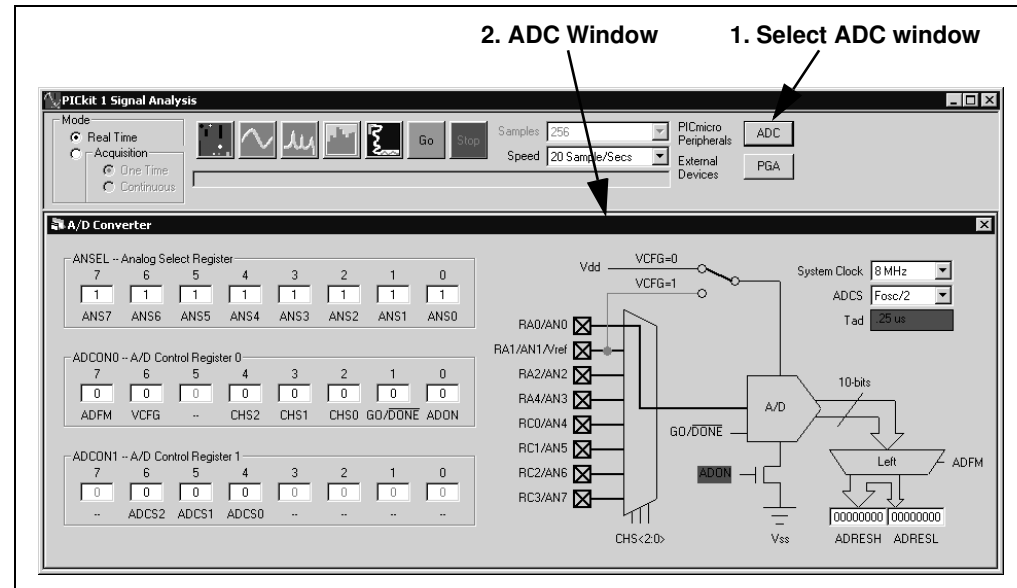

FIGURE 3-4: Manual ADC Configuration.
1. Clicking the ADC button (see Figure 3-4) opens the ADC configuration window. This window starts at the power-on default conditions for the ADC; therefore, it must be configured before use.